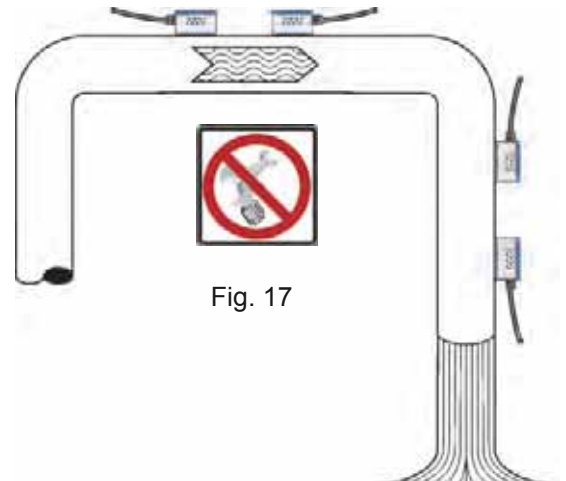

Fig. 17
- the transducers must never be placed in the highest point of the concerned hydraulic circuit, because there is greater chance that in that pipeline section will create air pockets (fig.17)
- vertical open drain pipes without a section restriction to avoid sudden pipe emptying during flow measurement (fig.17)